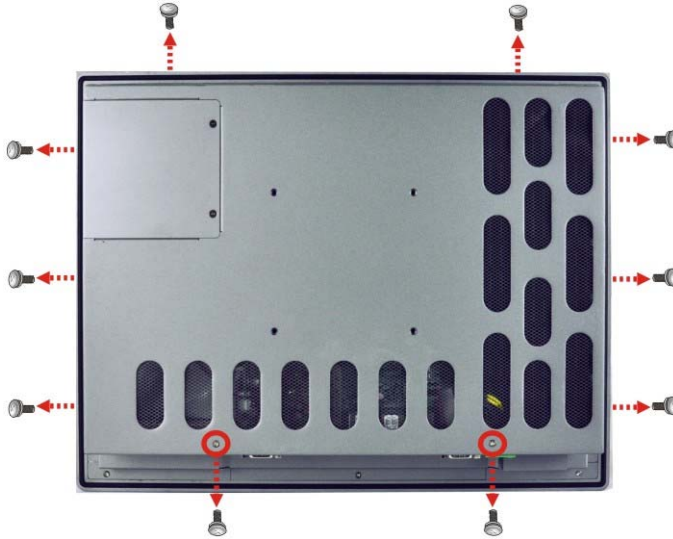

Figure 4-1: Back Cover Retention Screws
Step 3: Remove a total of ten retention screws from the back cover, eight on the rear of the frame and two on the rear panel (**Figure 4-1**).